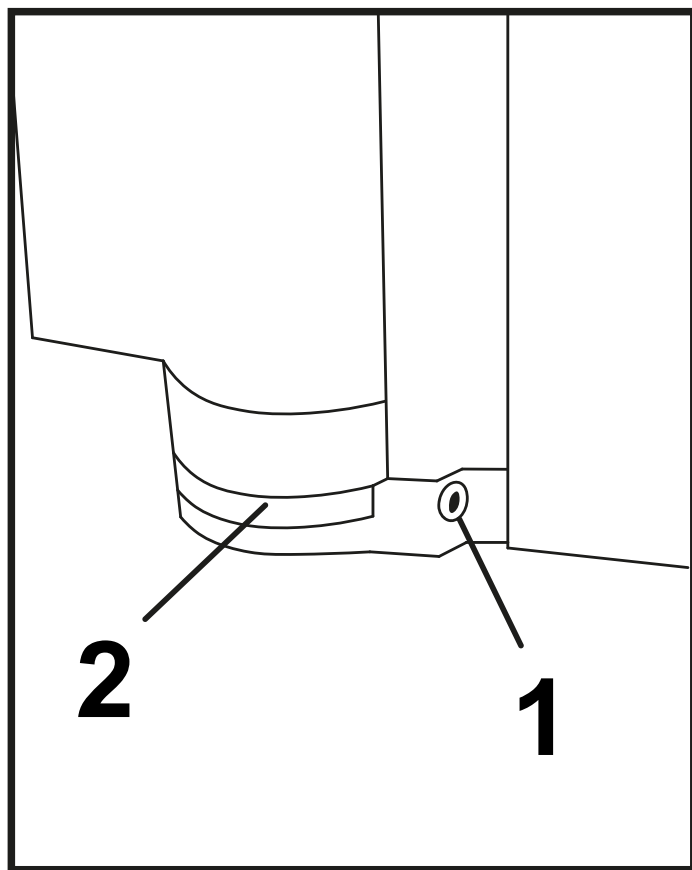

Figure 8
17. To adjust the mono hinge, loosen both mounting screws (1) on the washer by a few turns using the included Allen key. (Figure 8)
18. Move the glass (2) to the desired position where you want to secure the door.
19. Once the glass (2) is in the desired position, tighten the washer mounting screws (1).